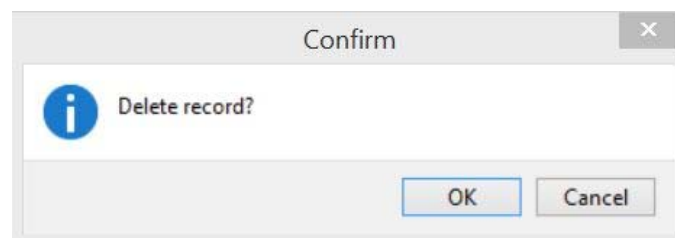

Figure 26
- To delete a unit, click on the  button and the Confirm Delete window will be displayed (**Figure 26**). Click **OK** to confirm deletion or **Cancel** to keep the record.